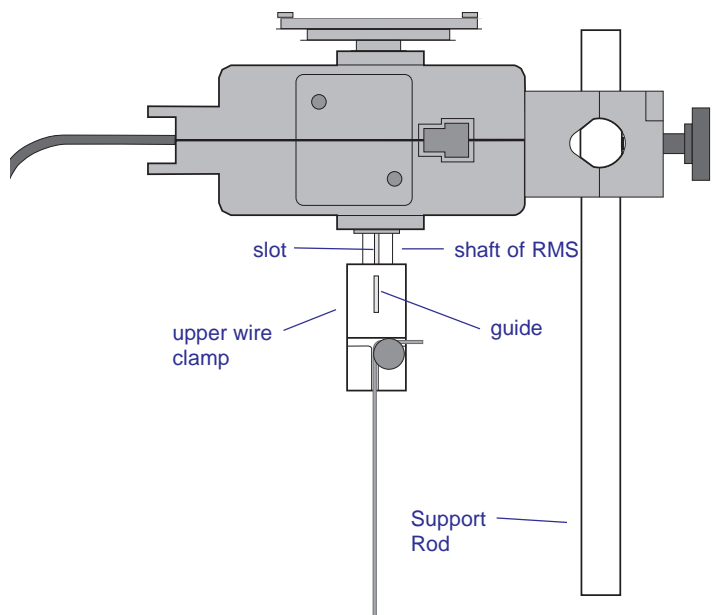

Figure 5
8. Adjust height of the lower wire clamp as necessary to position to top of the upper wire clamp approximately half-way up the shaft (Figure 5).